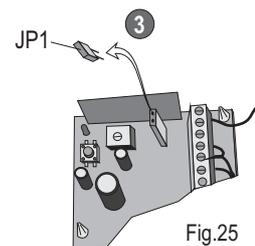

Fig.25
- 26** - Connect the two cables coming from the electronic card (mainframe) to the lamp holder (J). Make sure that the lamp bulb (12Vac/15 W) is well screwed and then fix the lamp holder on the base (Y2) .
- 27** - Connect the base (Y2) to the support (Y1) through the two suitable screws (Fig.25).
- 28** - Mount the cover (Y3) on the base by pushing it until they are well connected (Fig.25).
- 3 - Remove the jumper JP1 (fig.25).